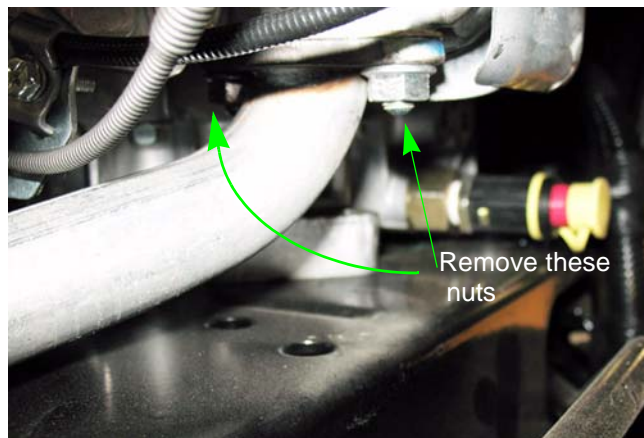

Figure 2.3
1. Remove the two nuts that secure each exhaust pipe to the cylinder head. See Figure 2.3.